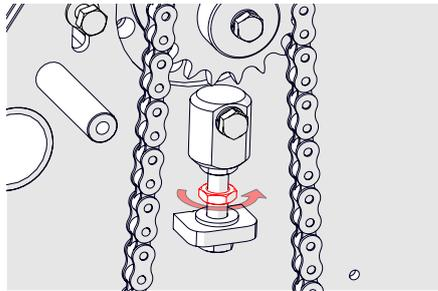

Fig. 11D - Loosen fully the tensioner block locking nut.
5. While supporting the weight of the motor and chain/belt, loosen fully the tensioner block lock nut [17 mm spanner] below the tensioner block and lower (Fig. 11D & Fig.